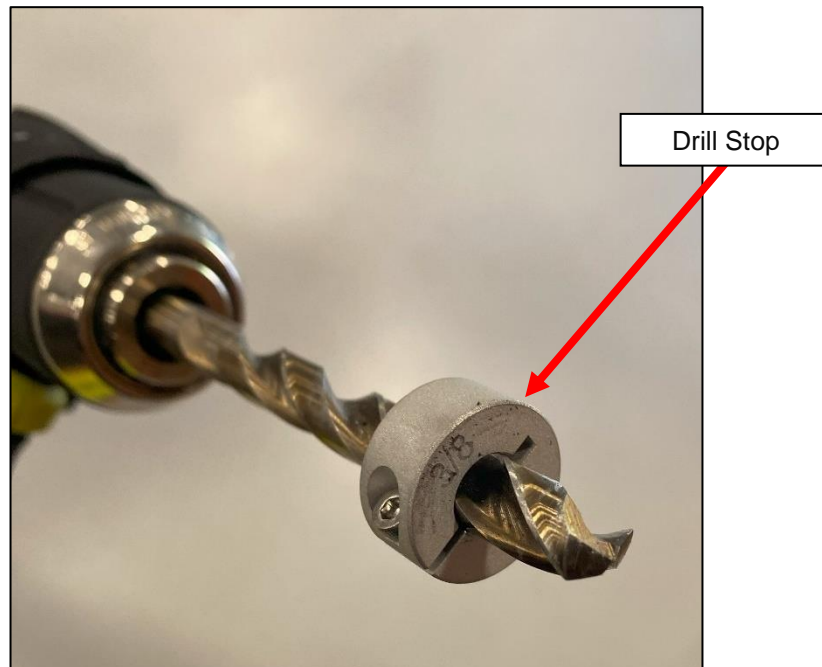

Figure 11
13. Locate a 3/8" Drill Bit and a Drill Stop. A Drill Stop is necessary to prevent the Drill Bit from hitting the outside of the Truck Bed when drilling. Leave only a minimal amount of the Drill Bit exposed with the Drill Stop Installed. *Figure 11*.